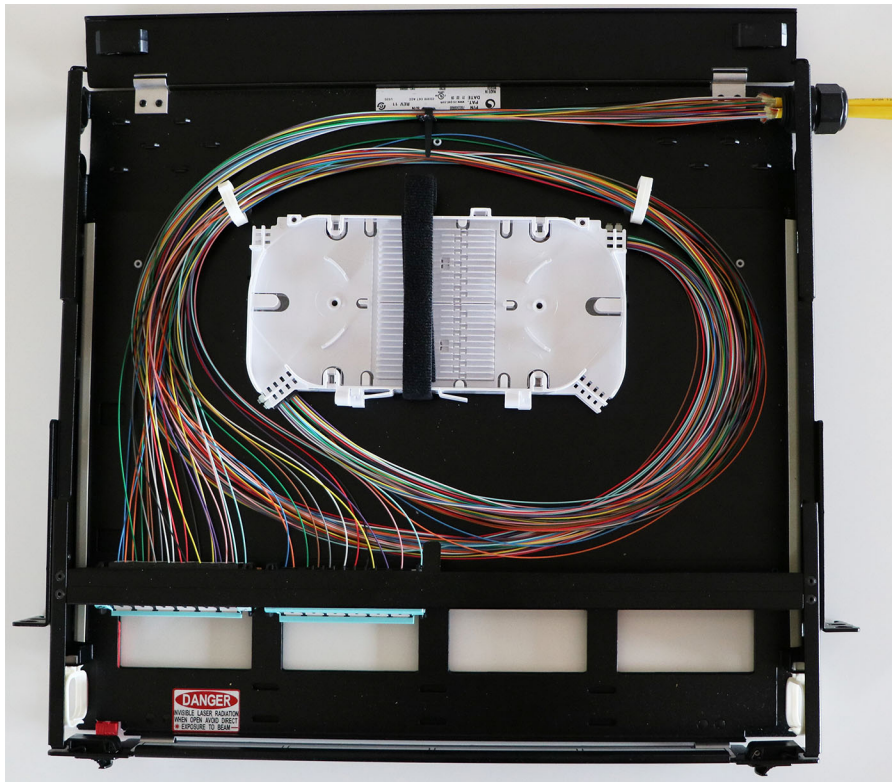

Figure 20. Cable Routing to AGILE Splice Tray (G2 shown)
2. Route pigtails to the panel and terminate the pigtail connectors at the assigned adapter pack, as shown in Figure 20. Cable slack shall be spooled inside the perimeter of chassis and restrained with cable ties at tie-down points provided, as necessary.
3. Route the facility cable to the panel and secure it in a cable entry port using a gland connector as shown in Figure 20.
4. Route the pigtails and facility cable within the EPX panel in the opposite direction and into the opposite side of the Agile splice tray as shown in Figure 20.